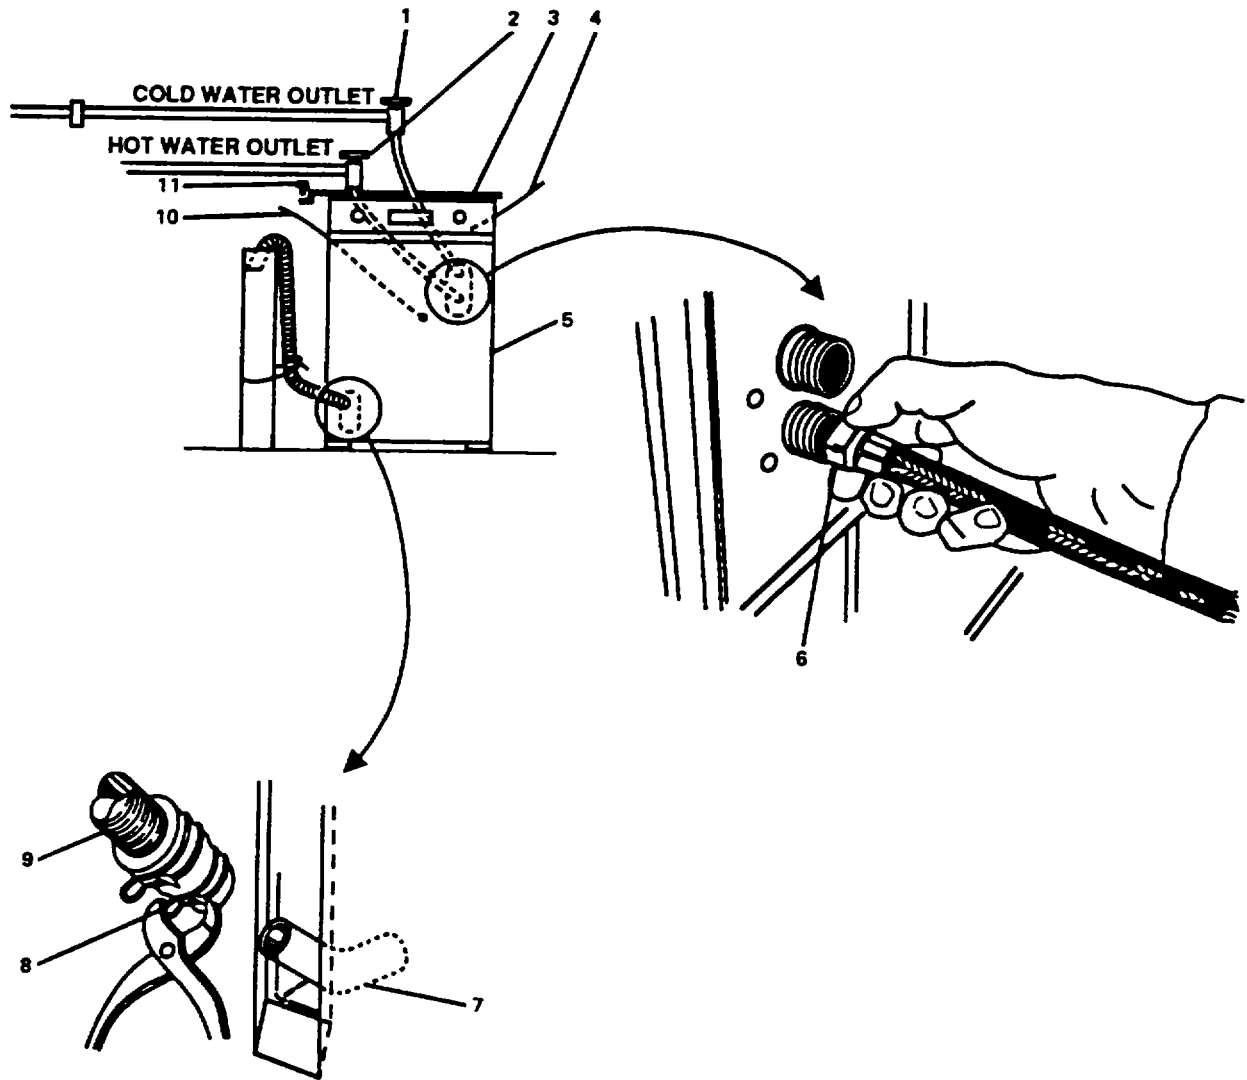
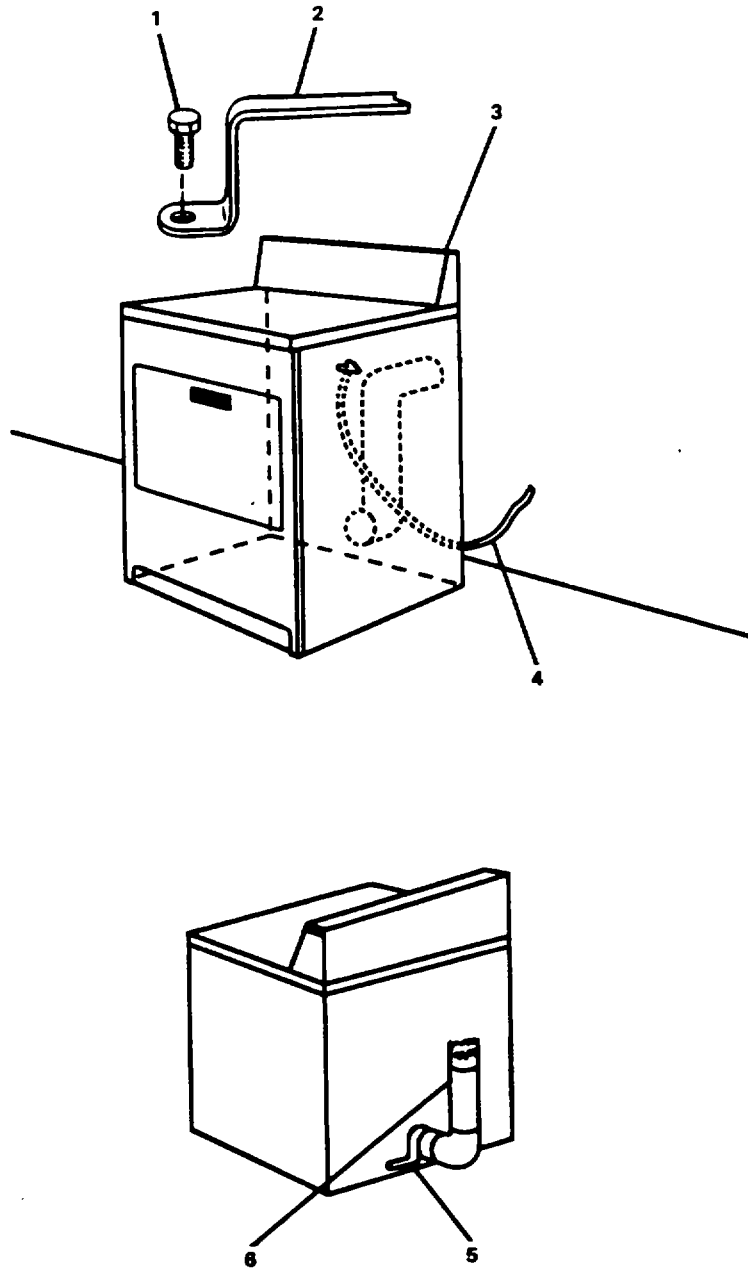

Figure 2-16. Replace Washer Machine,
Figure 2-17. Replace Dryer.
- a. Disconnect power cord (4, Figure 2-16) and grounding wire (10) from back of washer (5).
- c. Remove bolts (11) and securing bar (3) from top of washer (5).
- e. Squeeze the ears of clamp (8) and remove drain hose (9) from connector (7).
- f. Remove hot and cold water hoses (6) from back of washer (5).
- a. Remove bolts (1, Figure 2-17) and securing bar (2) from top of dryer (3).
- b. Disconnect power cord (4) from dryer.
- a. Install exhaust duct (6, Figure 2-17) in dryer (3). Secure duct with exhaust clamp (5).
- c. Connect power cord (4) into dryer (3).
- d. Install securing bar (2) and bolts (1).
a. Squeeze the ears of clamp (8, Figure 2-16) and connect drain hose (9) to connector (7) on back of washer (5).
b. Connect hot and cold water hoses (6) to back of washer (5).
c. Connect grounding wire (10) to ground lug on back of washer.
d. Connect power cord (4) into washer.
f. Install securing bar (3) and bolts (11).